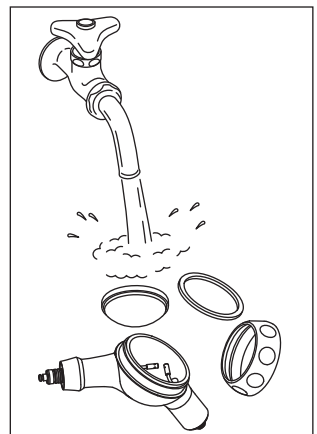

Fig.14
- 3) Wash away the cleaning powder adhering to the inside of the powder case/powder case cap under running water. (Fig. 14)